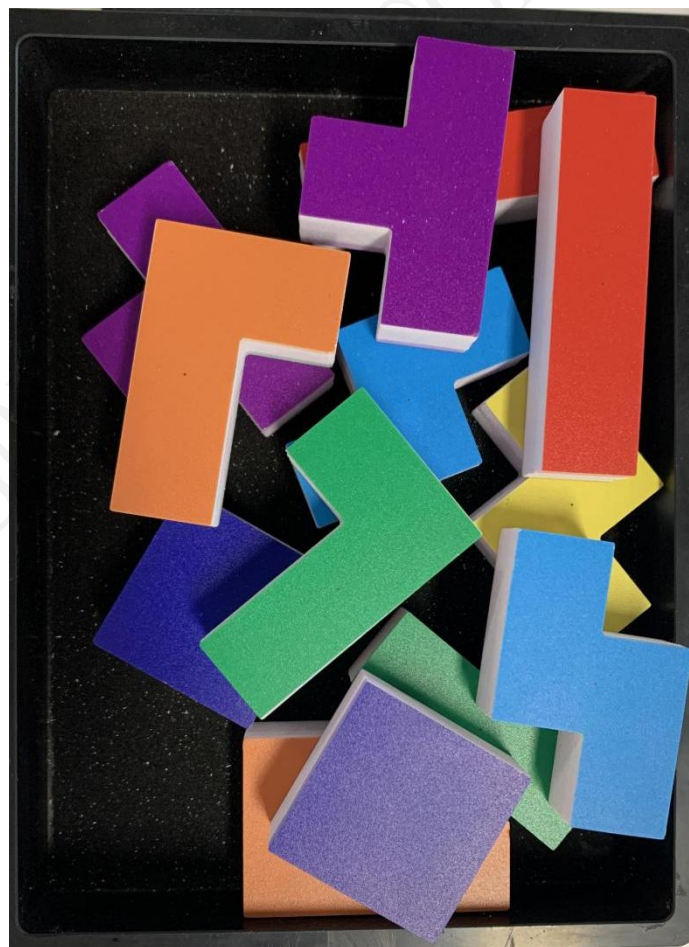
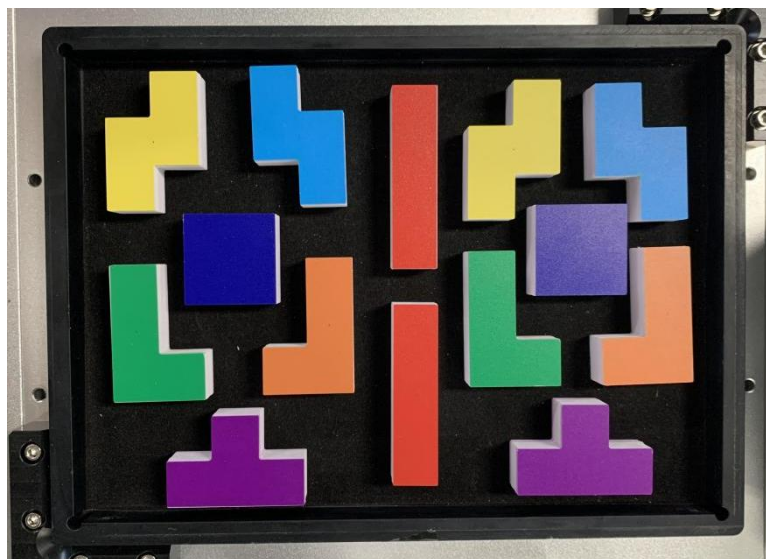

Figure 19 3D material plate
Figure 20 2D material plate
- 2) With the cooperation of 3D camera, 2D camera (bottom) and cooperative robot, 14 (7 kinds of) disordered Tetris (Figure 19) are placed from 3D plate to 2D plate in the specified order (Figure 20);